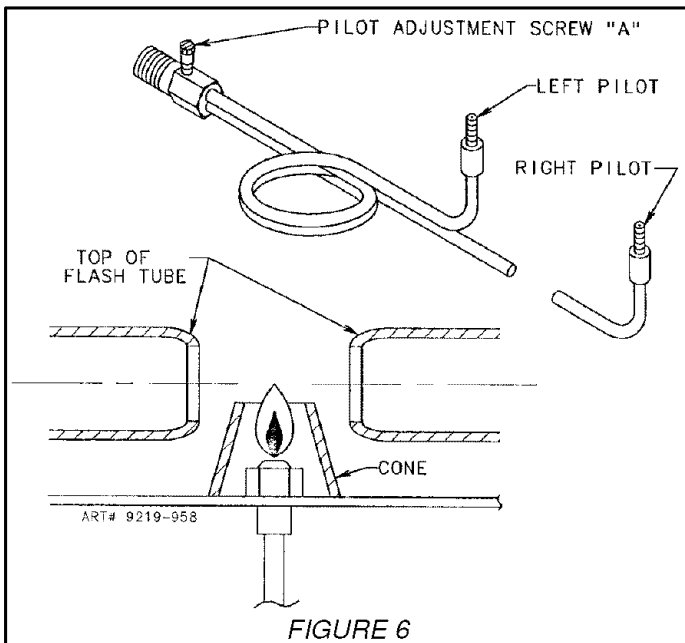

FIGURE 6
(See figure 6)
Purge all air from supply system by turning on one top burner valve. Then turn off valve and adjust top pilot flame using adjusting screw "A" (figure 6) so that flame is even with top of flash tube. To light the burner, push and turn top burner knob to the lite position. **NOTE:** Some models have **ONLY** one pilot adjustment at the manifold pipe.
- Models with standing pilots: Adjust burner pilots. (See figure 6). Turn the selector switch on the face of the thermostat to the LP position.
- Models with standing pilots: Adjust top burner pilots. (See figure 6). Turn the selector switch on the face of the thermostat to the Nat. position.